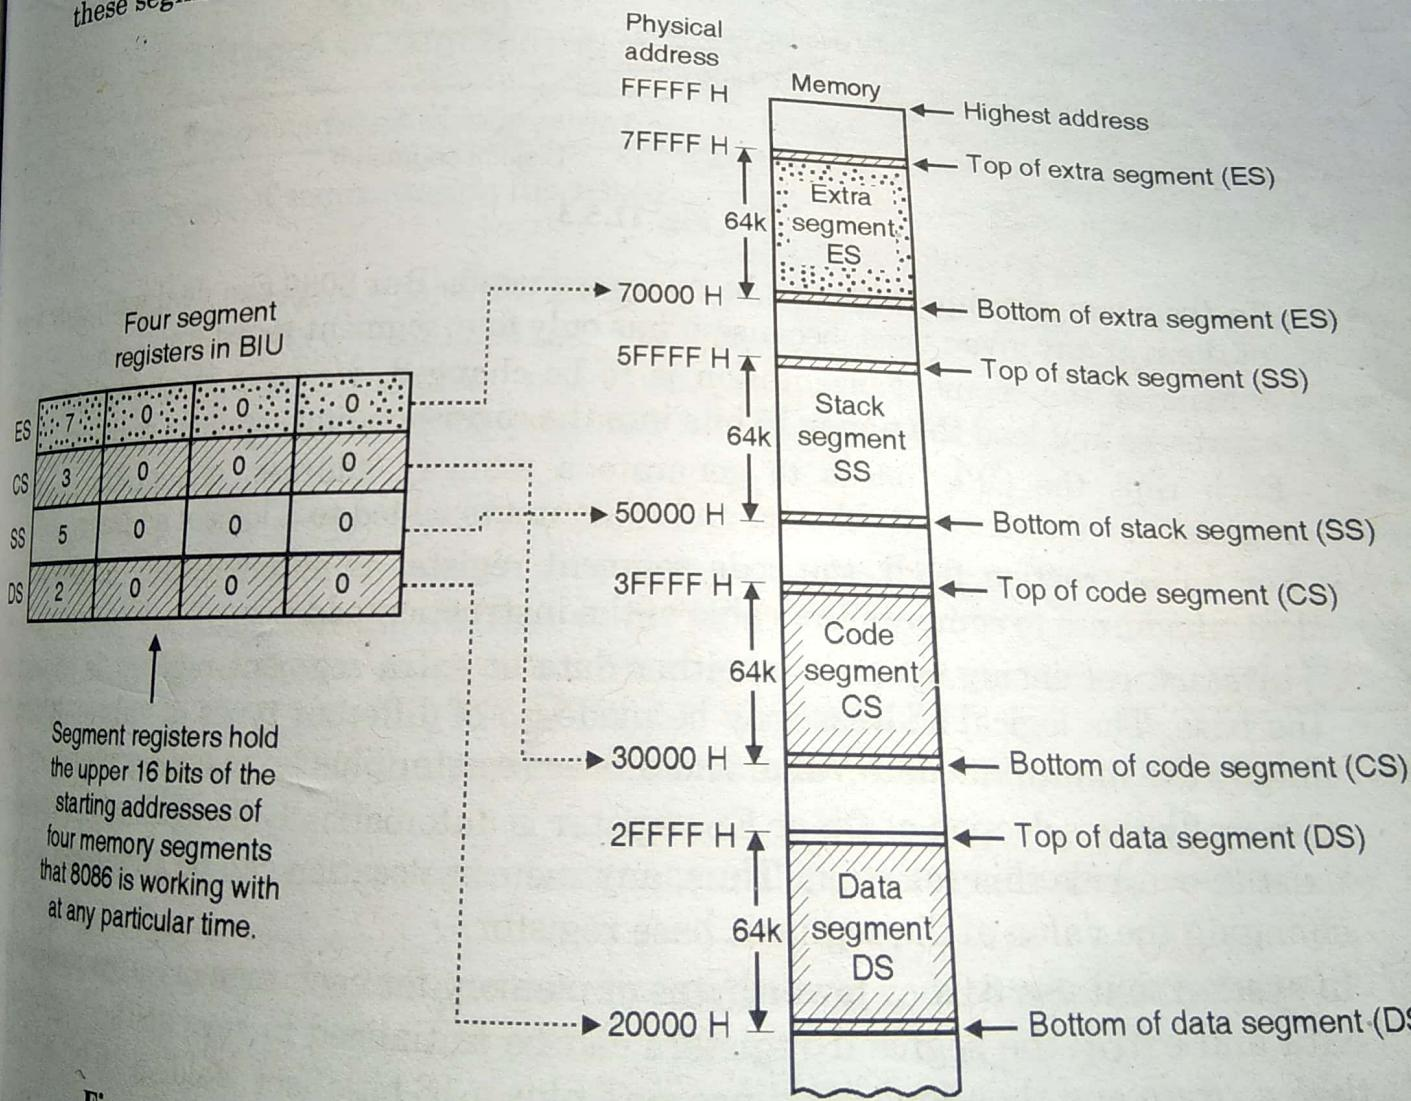
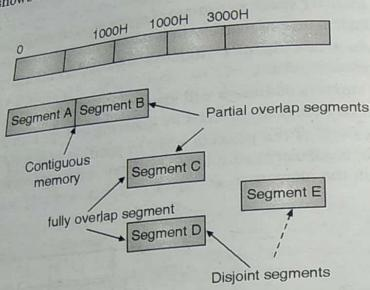

Fig. 11.5.2 : One way of positioning four 64 k byte segments within the 1 M byte memory space of an 8086
Fig. 11.5.3
- This concept can be clearly understood by referring to Fig. 11.5.2.
- Fig. 11.5.2 shows one of the possible ways to position the four 64 k byte segments within the 1-M byte memory space of 8086. There is no restriction on the locations of these segments in the memory.
- Note that these segments can be separate from each other as shown in Fig. 11.5.2 or they can overlap.
- Note that the starting address or base address of the data segment is 20000H. The upper 16-bits of this i.e. 2000 are loaded into the data segment register (DS).
- Fig. 11.5.3 shows another way of positioning segments within 1 MB memory space of 8086.